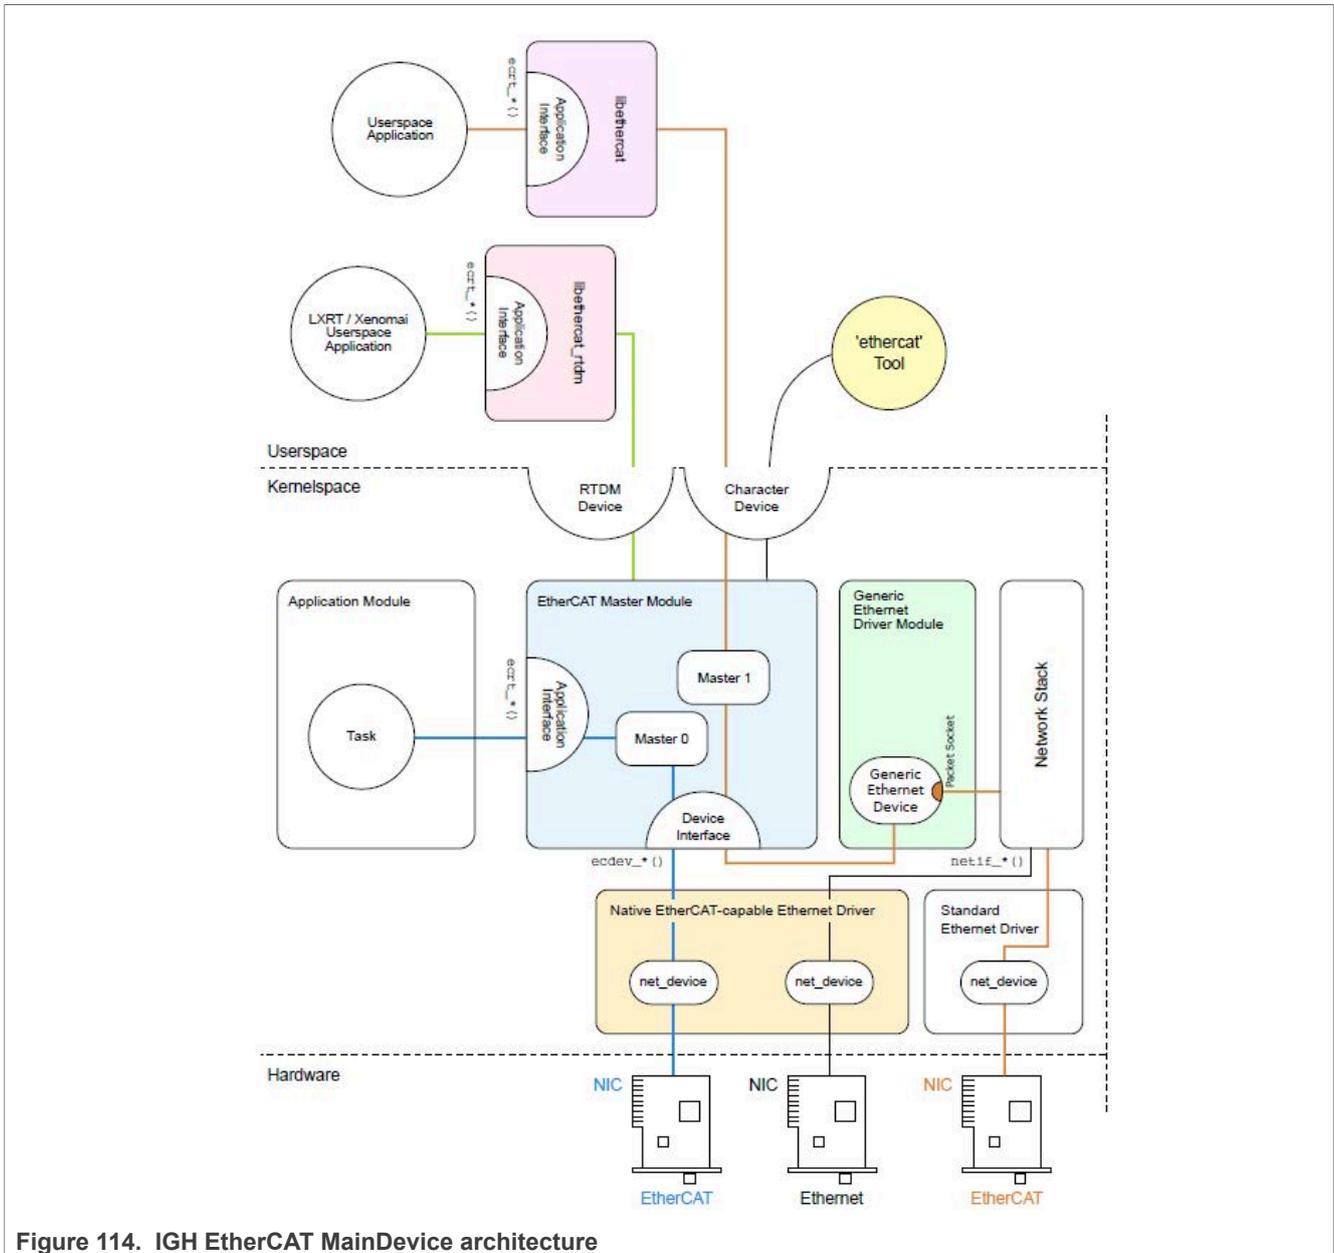

Figure 114. IGH EtherCAT MainDevice architecture
- **Application:** A program that uses the EtherCAT MainDevice (usually for cyclic exchange of process data with EtherCAT SubDevice). These programs are not part of the EtherCAT MainDevice code, but require to be generated or written by the user. An application can request a MainDevice through the application interface. If this succeeds, it has the control over the MainDevice: It can provide a bus configuration and exchange process data. Applications can be kernel modules that use the kernel application interface directly. They also include user space programs, which use the application interface via the EtherCAT library or the RTDM library. The Figure 114 shows the IGH EtherCAT MainDevice architecture.